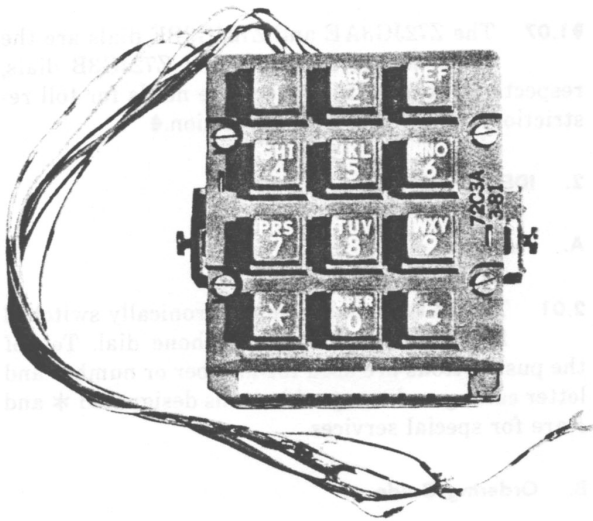

Fig. 1—72C3A (MD) Dial, Front View
1.01 This practice contains information on the 72C3A manufacture discontinued (MD), 72D3A (MD), 72E3A (MD), 72H3A, 72J3A, 72K3A, Z72H3AE, Z72J3AE, Z72K3AE, Z72JG3A, Z72JG3B, Z72JG3AE, and Z72JG3BE dials (Fig. 1 through 9 and Table A).